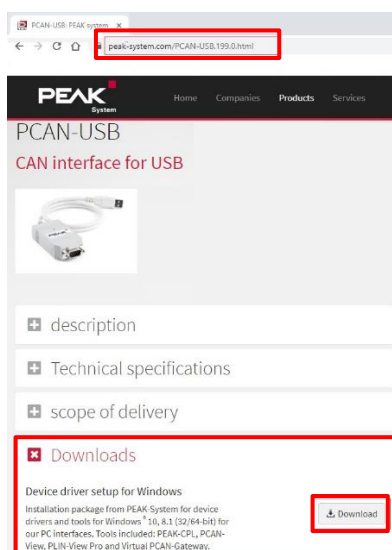

Figure 1
- c. Download the PCAN-USB drivers from <https://www.peak-system.com> (Figure 1).